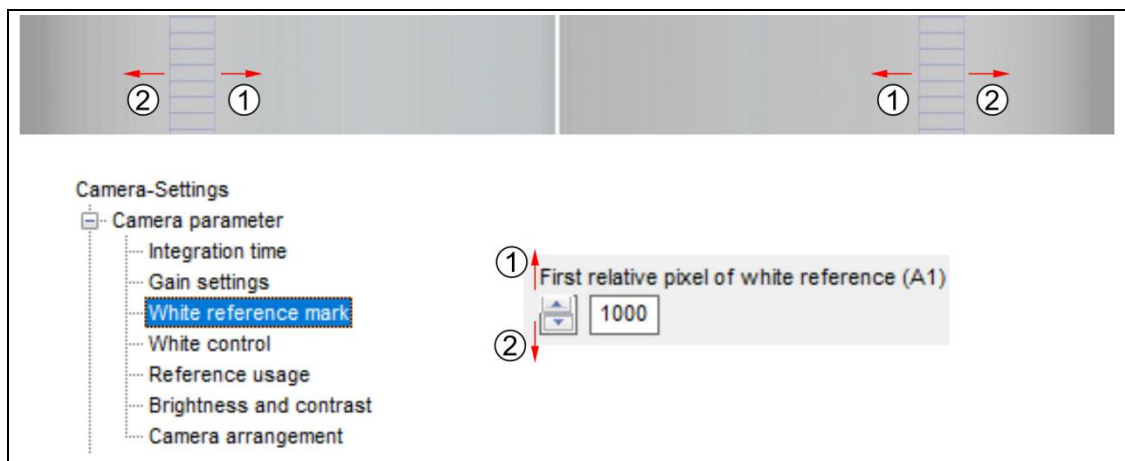

Fig. 40: Adjusting the white reference marks
- In the **First relative pixel of white reference (A1)** field modify the value in order to move the white reference marks as shown in Fig. 40, p. 69.